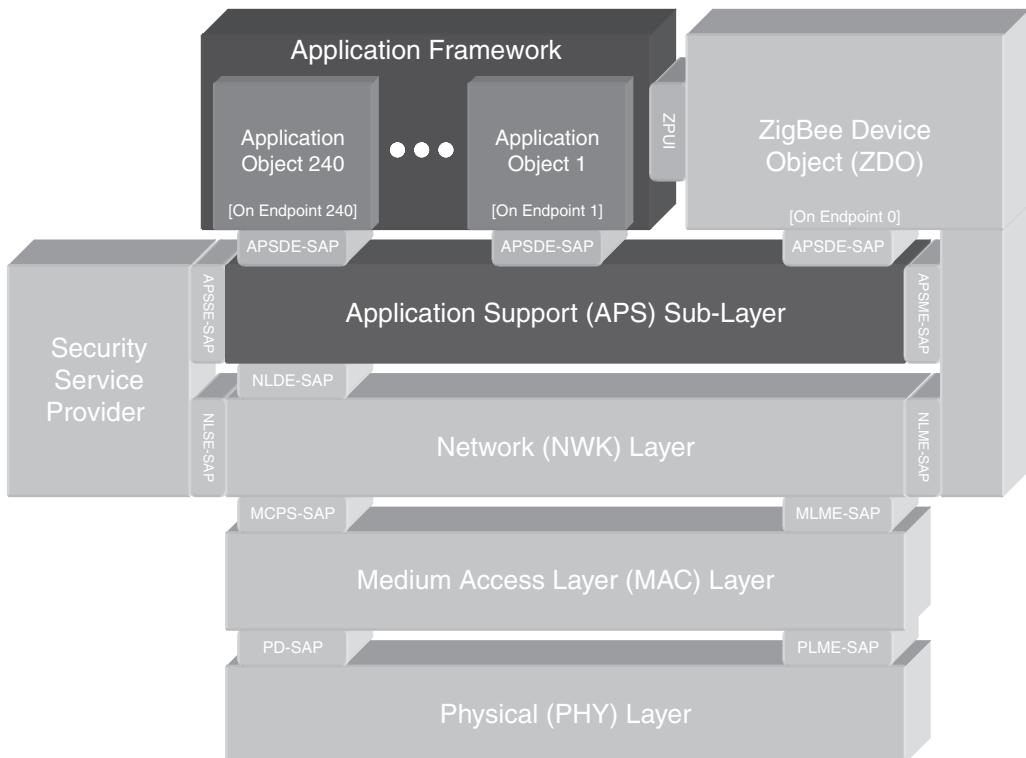

Figure 4.26: Application Support Sublayer (APS)
APS and the Application Framework (AF) together form the ZigBee interface used by applications (see Figure 4.26). Lower layers are not called upon directly, but are used by APS and ZDO.